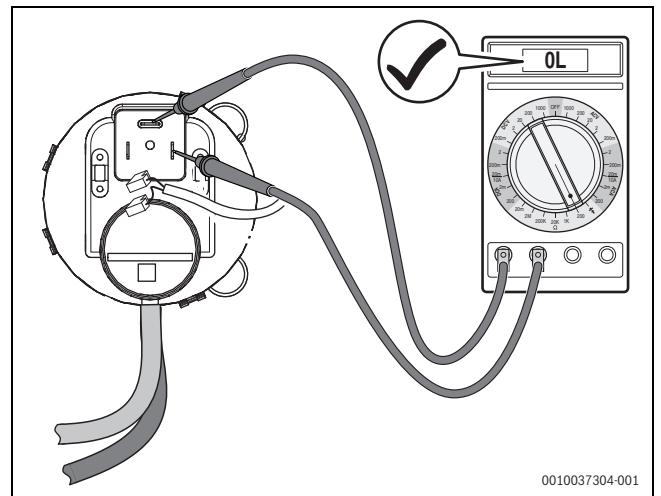

Fig. 90 Test the continuity of the differential pressure switch (differential pressure switch ok)
- Pull off power cables at the differential pressure switch and measure the resistance across the contacts (→ Fig. 90).